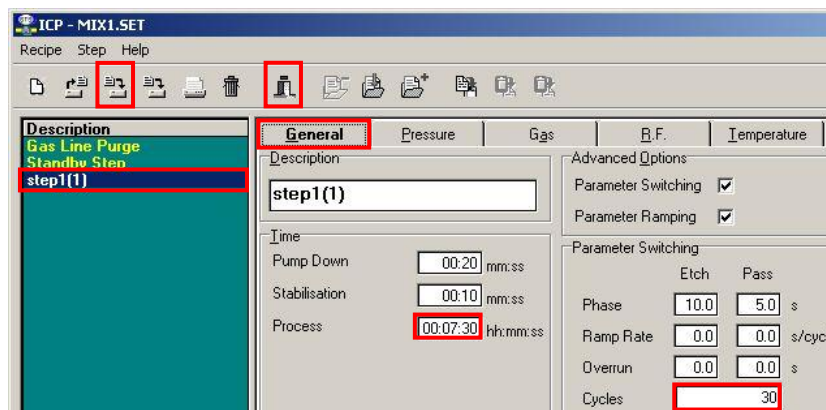

Fig.6: *Recipe Editor*, setting process time or number of cycles
4.2.3 Press **Recipe** to enter the **Recipe Editor** (Fig.6), or alternatively **Edit/Process Editor**.